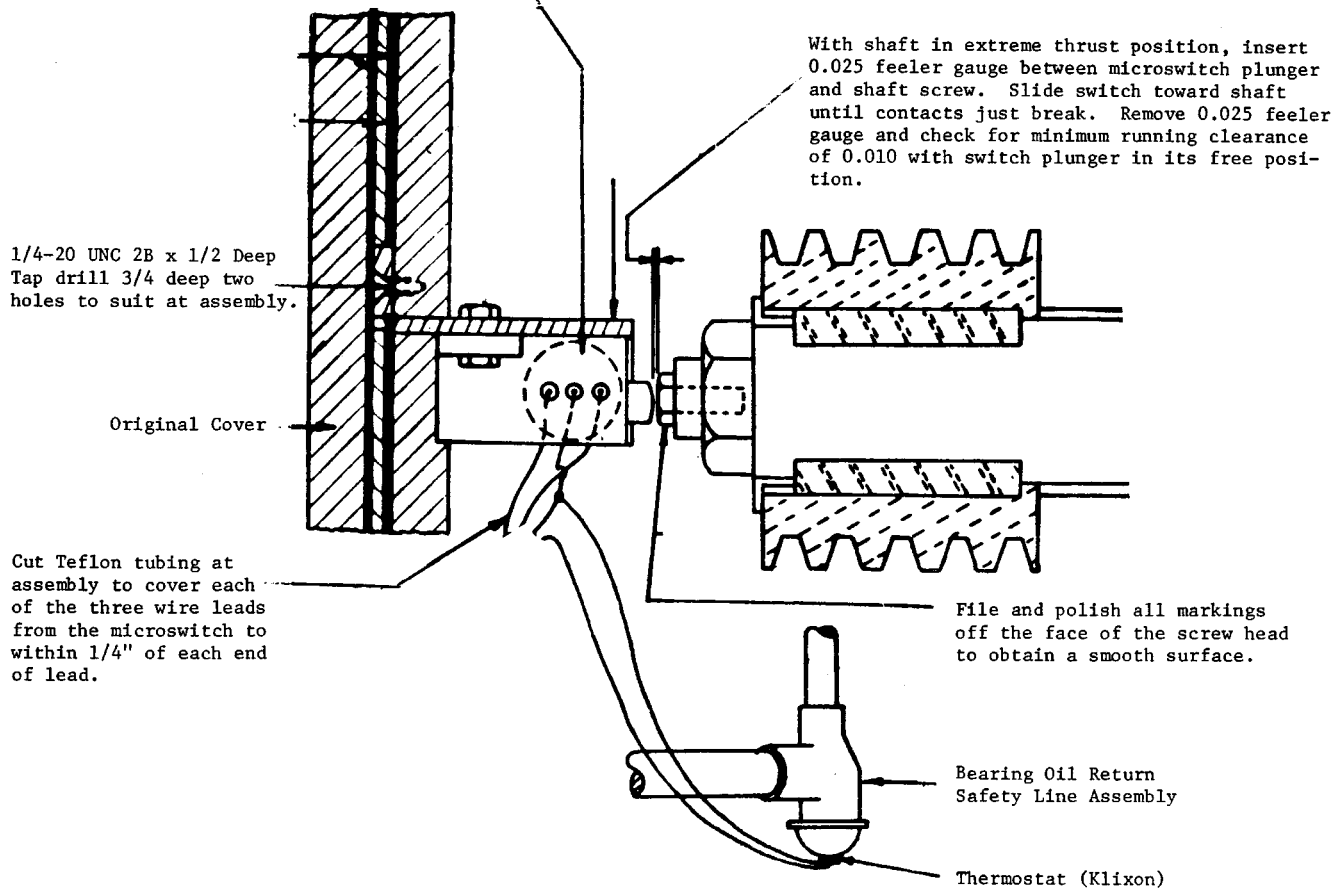

Fig. 3. Shaft Movement Switch and Return Oil Temperature Cutout Switch Installation
10. Refer to Fig. 3 for switch installation.